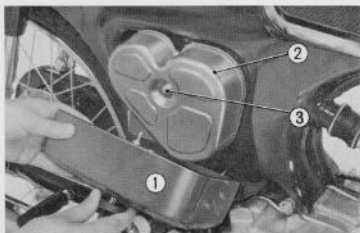

Fig. 4.69 Removing air cleaner (CD 90)
Remove the air cleaner case cover ① mounted on the right side at the center of the frame. The air cleaner element may be removed by unscrewing the attaching screw ③. (Fig. 4.69)